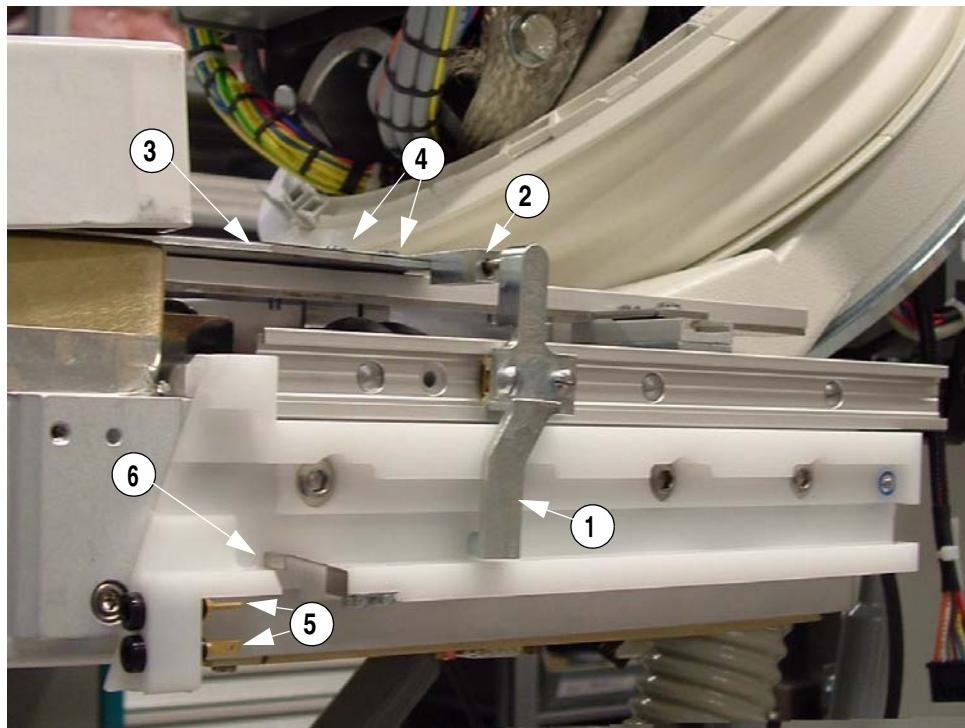

Fig. 7 Grid installation
1. Insert the left and right grid slider (1/Fig. 7) from the back into the rail.
2. Insert the left and right grid holder into the grid slider (2/Fig. 7).
3. Screw the grid (3/Fig. 7) to the grid holder (4/Fig. 7). The marking has to be on top, text must be readable.
4. Line up the grid so that it runs in parallel to the front of the table, the front switch has to be engaged and the grid sliders have to be engaged with the spring (6/Fig. 7).
5. Mount and dismount the MAG table several times and check if both grid holders (1/Fig. 7) are engaged with the spring (6/Fig. 7).
The magnification table is optional. When the magnification is not supplied with the system, make sure that the grid is locked into the front of the table by the spring (6/Fig. 7).
6. Connect the cables (5/Fig. 7) for the magnification table on both sides according to the labels.